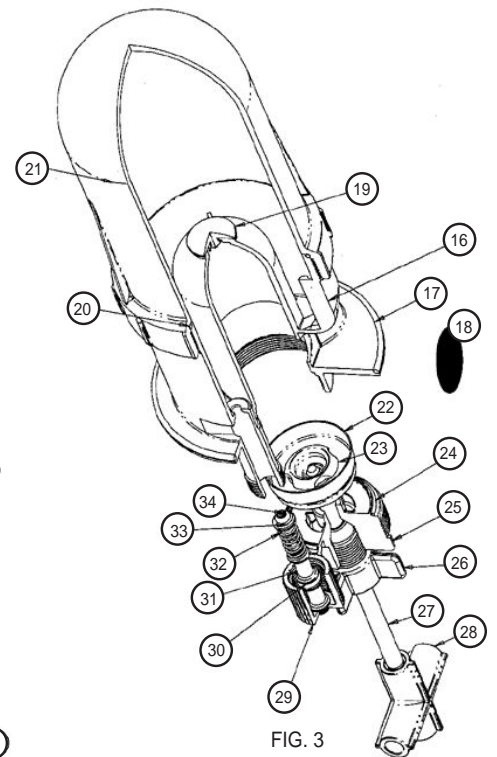

FIG. 3
9. Check packing seal nut (fig. 3, item 26) and tighten if loose to avoid leakage at pump shaft.
1. Release air pressure by turning pressure control valve (fig. 3, item 29) in counterclockwise direction.
5. Slide pump housing (fig. 3) out of tank cavity.
6. Inspect O-ring (fig. 3, item 17) for damage or wear. Replace if necessary.
7. Inspect filter screen (fig. 3, item 18) for dirt or debris. Rinse with clear water or replace if necessary.
8. Remove pressure control valve (fig. 3, item 29) adjusting knob by turning counterclockwise. Inspect for damage or wear. Replace if necessary.
9. Unscrew pressure chamber (fig. 3, item 21) from pump cylinder (fig. 3, item 16). Inspect O-ring (fig. 3, item 20) for wear. Replace if necessary. Remove check valve (fig. 3, item 19) on top of pump cylinder. Inspect all sealing surfaces on both the valve and the cylinder areas for debris and scratches. **It is important for these areas to remain clean or the unit will not pressurize.** Replace check valve if necessary.
10. Unscrew the pump nut (fig. 3, item 25) to reveal the pump cup retainer assembly (fig. 3, item 22 & 23). Carefully inspect the external surfaces of the cup for scratches or cracking. Also inspect the mating pump cylinder walls for scratches. Excessive wear will cause the pump to lose efficiency. Replace as necessary.
11. Remove the packing seal nut (fig. 3, item 26) from the pump nut (fig. 3, item 25). Inspect all sealing surfaces on the rod and nut for scratches. Replace as necessary.
12. Inspect pump nut O-ring (fig. 3, item 24) for damage or wear. Replace if necessary.
PUMP ASSEMBLY (FIG. 3)